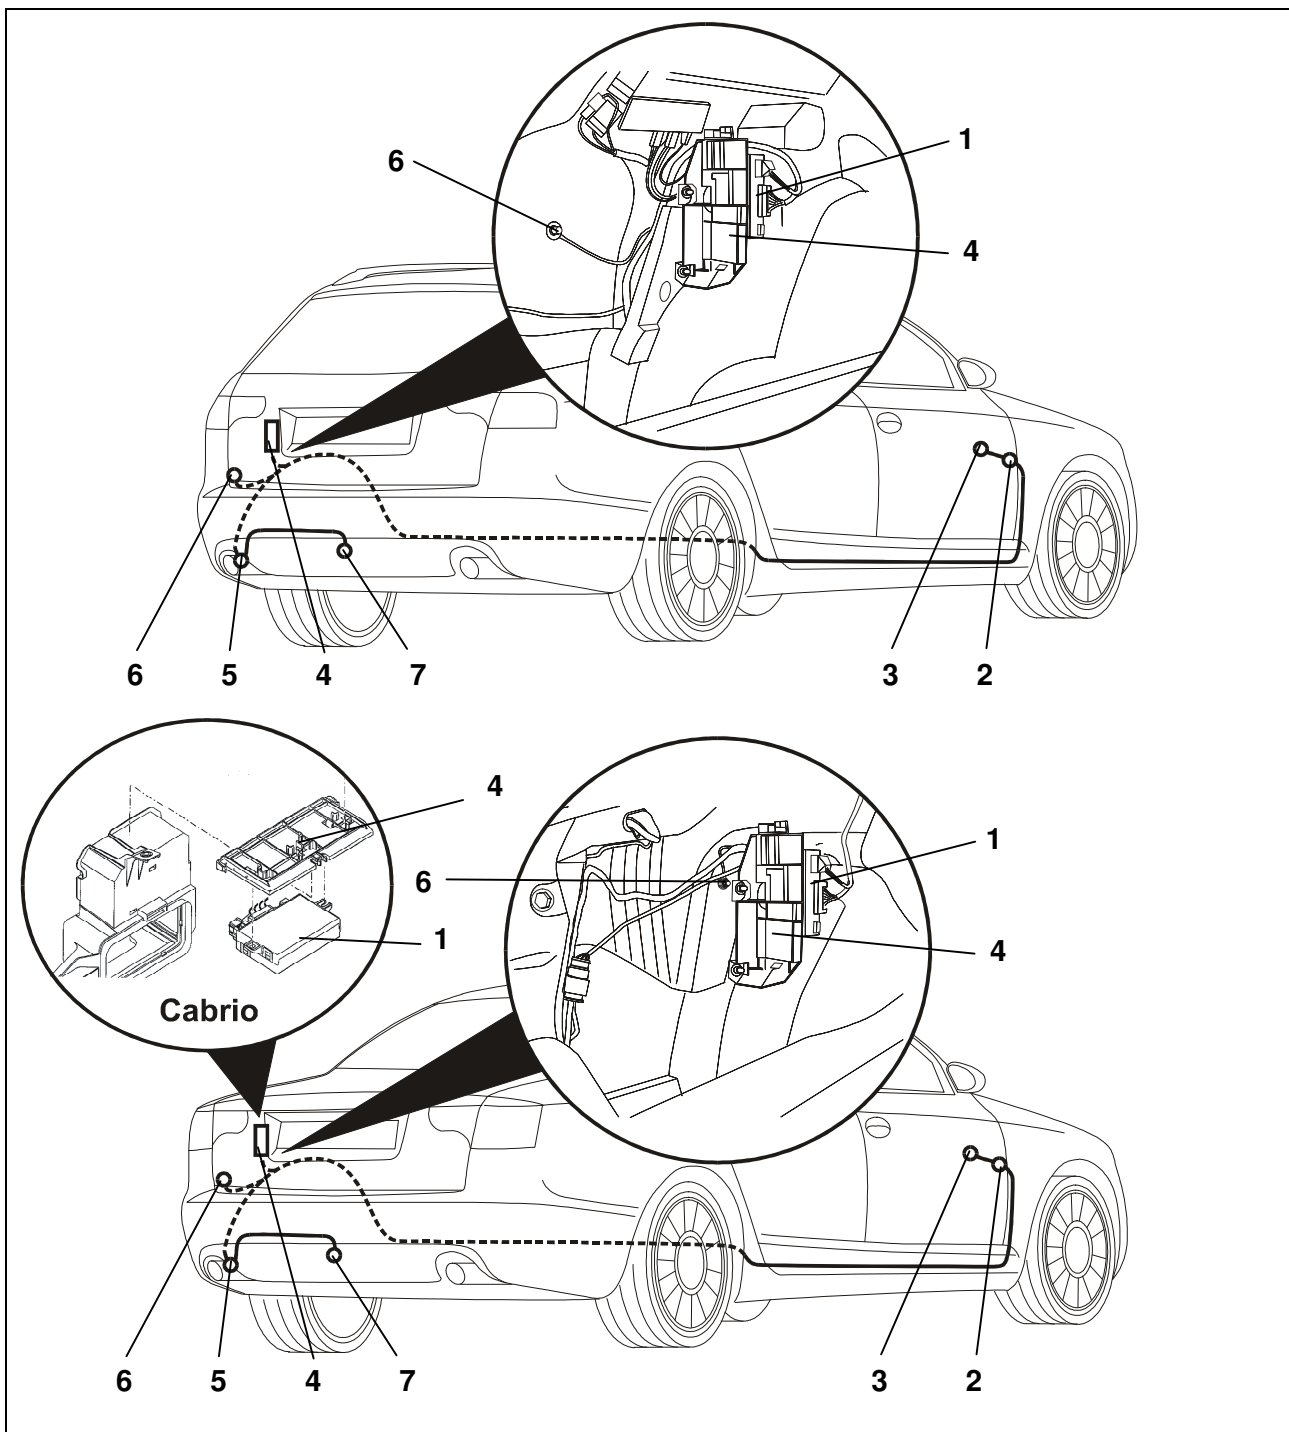

Fig. 1: Installation overview
3. Remove the cover from the 40 mm hole in the floor panel, below the left tail light (Fig. 1/5).
4. Route the end of the cable with the 14-pin and 6-pin plugs from outside through the hole to the equipment rack (Fig. 1/4).
5. Insert the rubber grommet in the hole (fig. 1/5).
6. Route the end of the cable set with the socket to the socket mounting plate (fig. 1/7).
9. Secure the socket to the mounting plate with the screws provided (Fig. 1/7), torque setting: max. 2.0 Nm.. If necessary shorten screws.
10. Fit the trailer connection unit into the equipment rack on the rear, left-hand side of the vehicle facing the direction of travel (Fig. 1/4).
11. Plug and lock in the 14-way and 6-way plug housings of the 8-core cable set in the sockets provided on the trailer connection unit (Fig. 1/1).
12. Connect the brown wire with eyelet to the vehicle ground point (Fig. 1/6) by the equipment rack.
13. Route the cable set over the left wheel housing up to the rear bench seat, then across from left to right and along the existing cable looms / cable ducts on the driver's side up to the ILM control unit for the vehicle electrical system in the driver's footwell (Fig. 1/3).
14. Disconnect the grey 32-pin plug from the ILM control unit (Fig. 1/3) and open the purple catch. Release the following wires and insert into the black 3-pin socket housing on the cable set:
17. Close catches and reconnect plug to the ILM control unit (Fig. 1/3).
19. Remove the black cover on the fuse box (Fig. 1/2) and open the purple catch.
20. Remove 10A fuse from pos.5, release the black/red, fuse-protected wire from chamber 5 and insert into the 1-pin housing on the cable set.
23. Insert the single 2.5mm² red/black wire into chamber 27 on the fuse box (Fig. 1/2).